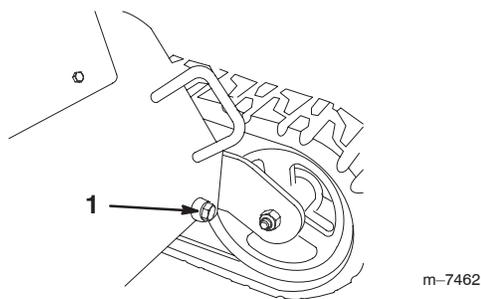

Figure 63
6. Place a large drain pan (capable of holding 15 US gallons) under the drain plug on the front of the traction unit (Fig. 63).
7. Remove the drain plug and allow the oil to drain into the pan (Fig. 63).